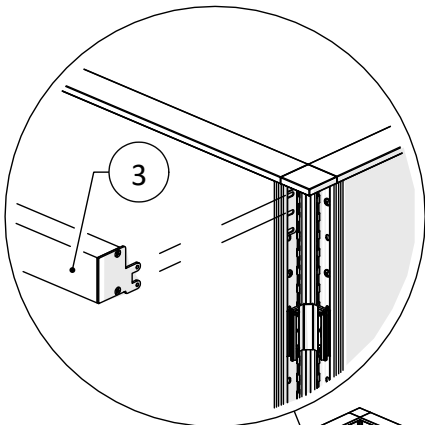

Figure 3
- 4. Ensuring the panels are level, install the top channel (2 people) by inserting the two projections into the topmost panel slots, (Figure 3).